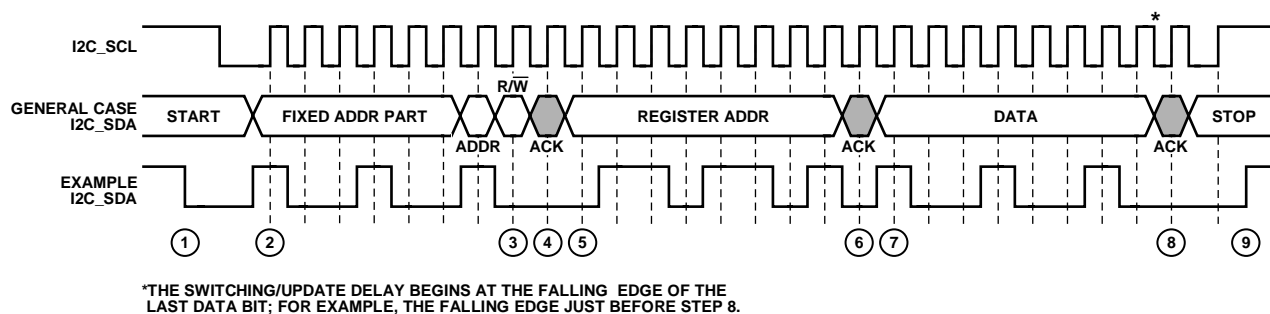

Figure 29. I²C Write Procedure
To write data to the AD8190 register set, an I²C master (such as a microcontroller) needs to send the appropriate control signals to the AD8190 slave device. The signals are controlled by the I²C master unless otherwise specified. For a diagram of the procedure, see Figure 29. The steps for a write procedure are as follows:
3. Send the write indicator bit (0).
- a. Send a stop condition (while holding the I2C_SCL line high, pull the I2C_SDA line high) and release control of the bus to end the transaction (shown in Figure 29).
There is a delay between when a user writes to the configuration registers of the AD8190 and when that state change takes physical effect. This update delay begins at the falling edge of I2C_SCL for the last data bit transferred, as shown in Figure 29. This update delay is register specific and the times are specified in Table 1.